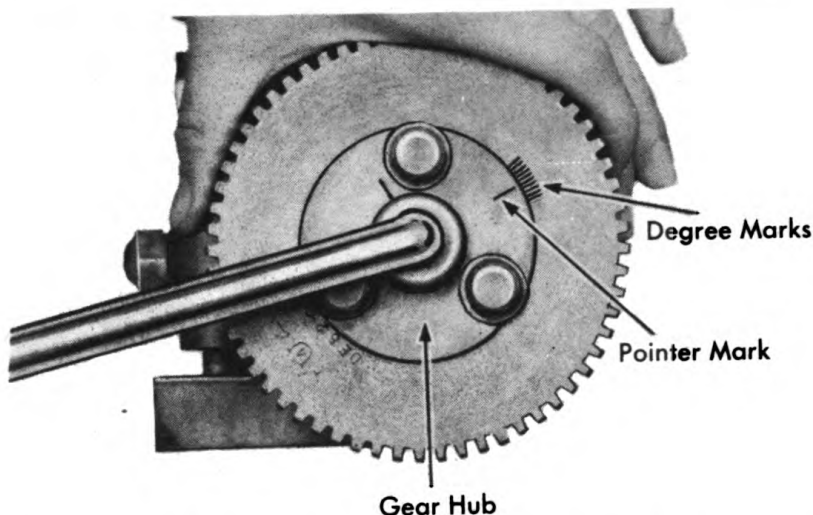

Figure 40.
8. To reset the timing if the timing is retarded, loosen the capscrews on the gear hub and turn the hub clockwise (as shown in Figure 40) one degree mark. If timing is advanced, the gear hub should be turned counter-clockwise one degree mark.
NOTE: When turning the hub counter-clockwise, as shown in Figure 40, do not loosen the hub retaining nut. Exert just enough pressure on the wrench handle to move the hub. Tighten the capscrews and recheck the timing beginning with Step 6. It may be necessary to repeat the foregoing procedure more than once to obtain exact timing.